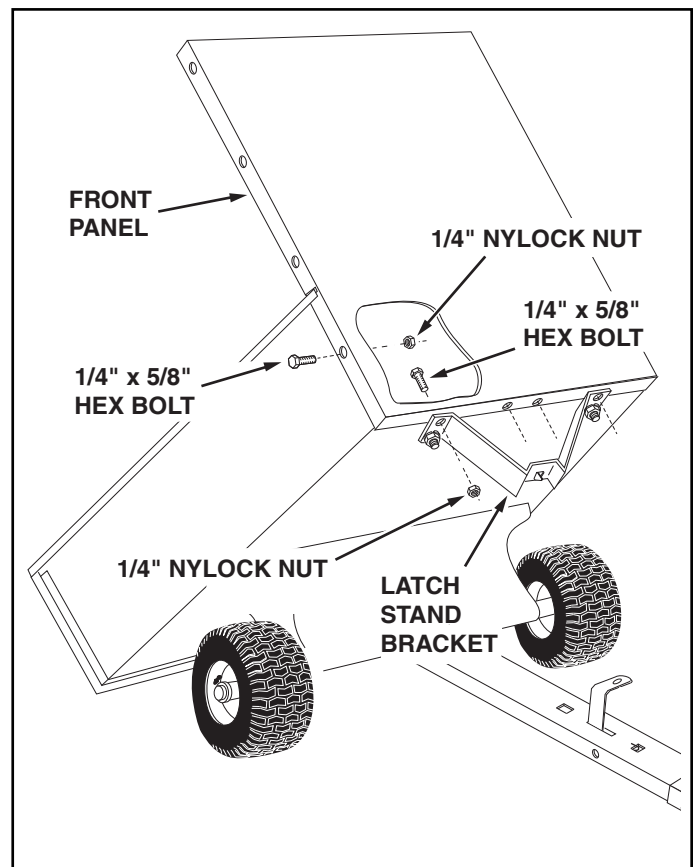

FIGURE 10
- Release the latch lock lever and tilt the cart bed back. See figure 10.
- Assemble the front panel to the cart bed, sliding the bottom lip of the panel in between the cart bed and the latch stand bracket. Fasten the panel to the bottom and sides of the cart bed using six 1/4" x 5/8" hex bolts and 1/4" nylock nuts. **Tighten.** See figure 10.